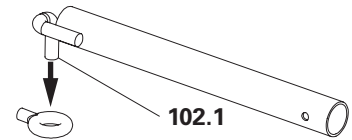
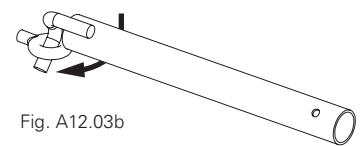

Fig. A12.03a
Fig. A12.03b
2. Turn the suspension hook (**102.1**) of the wall tie downwards and insert it into the eyebolt from above up to the stop. (Fig. A12.03a) Turn the wall tie clockwise so that the suspension hook is horizontal below the eyebolt. (Fig. A12.03b + A12.03c)